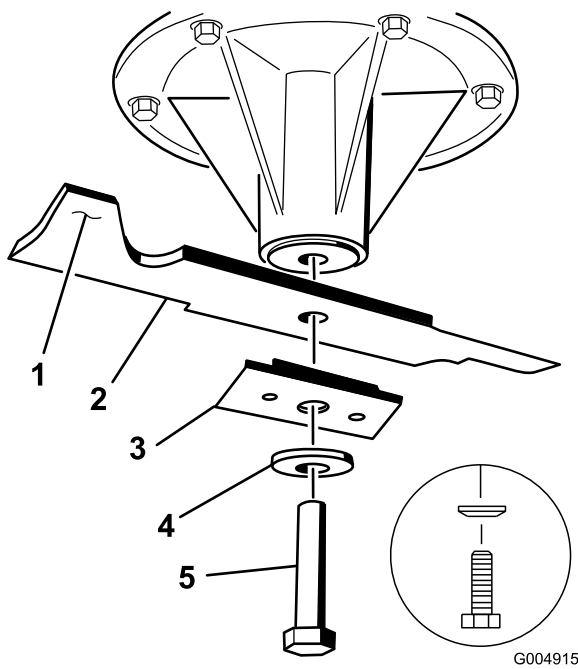

Figure 59
- For 36 inch mower decks, remove the blade bolt, curved washer, blade stiffener, and blade from the spindle shaft (Figure 59).
3. For 36 inch mower decks, install the blade, stiffener, curved washer, and blade bolt (Figure 59).